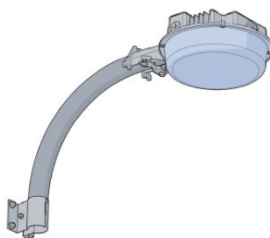

Figure 4
7. Install arm onto desired surface.(Figure 4)